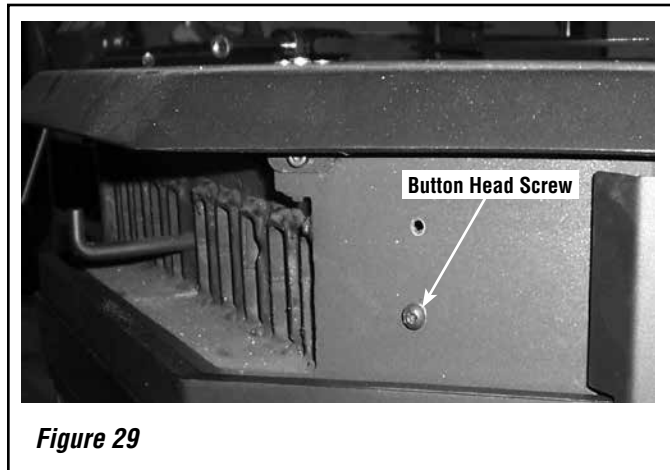

Figure 29
1. Remove the four button head screws from body of the stove with a 1/8" allen wrench. See **Figure 29**.